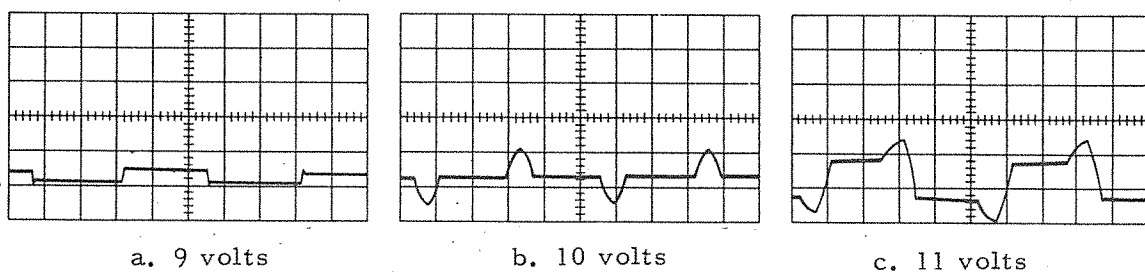

Figure 5. Charge Amplifier Output Signal (CO) with Oscillator Sine Wave Output Amplitude at 9, 10, and 11 volts rms. Vertical sensitivity 6 volts/div.
A normal (AI) signal but an incorrect (AO) signal indicates that the AVC Amplifier is probably not functioning and reference to Section 4.6.1.1 is recommended. If the (AI) signal is incorrect either the Charge Amplifier or the Quadrature Amplifier may be defective. Observe the output of the Charge Amplifier at test point (CO) as the Oscillator sine wave output is varied from 9 to 11 volts rms by the external signal and compare it with the correct waveforms as shown in Figure 5. If the Charge Amplifier output is incorrect, refer to Section 4.6.1.2. If the Charge Amplifier output is normal, check the output of the Quadrature Amplifier at test point (QO). It should be a square wave with an amplitude of 2-3 volts peak-to-peak, lagging the Oscillator sine wave output by approximately 90°. If this signal is incorrect, refer to Section 4.6.1.3.
When it appears that the Charge Amplifier is not functioning properly, check the waveform of the Charge Amplifier output at test point (CO). Vary the Oscillator sine wave output from 9 volts rms to 10 volts rms and then to 11 volts rms (by varying the external source signal). The proper waveform of the (CO) signal for the three conditions are shown in Figure 5. The normal (CO) signal is shown in Figure 5b.
If the (CI) signal is correct but the (CO) signal is not, the problem is most likely the zener reference diodes, VR131 and VR132, or the amplifier which consists of Q133 and Q135. To determine which of these is defective, observe the waveform at the junction of VR131 and VR132. If the amplifier is functioning properly, this waveform should be similar to the (CO) signal except that its amplitude will be reduced by the gain of the amplifier which is approximately 150. An incorrect signal at this point indicates a defective component. If VR131 or VR132 is replaced, it may be necessary to readjust potentiometer R137B, to make the positive and negative (CO) pulses, as shown in Figure 5, of equal amplitude.